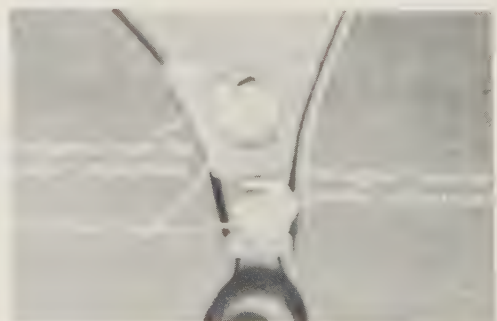

Fig. 11.20. Camber and caster adjusting cams (FF - 1 models)
- 1 When adjusting the camber align the hexagonal cam, as shown in Fig. 11.20, with the camber adjusting reference line. To obtain normal camber set the mark '4' at the reference line. Camber angle at this setting is 1° 50' with the vehicle unloaded.